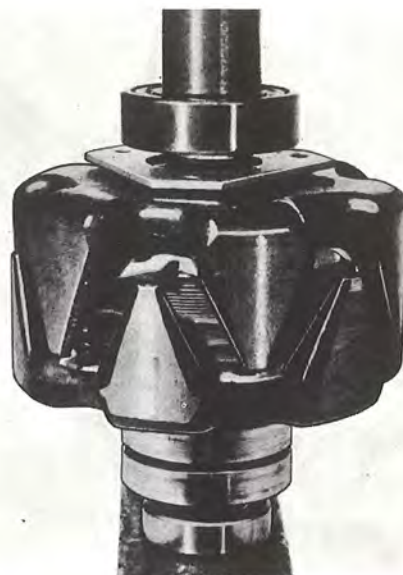

Fig. 3-17. Fitting the bearing
2. Press the bearing in with the help of a tubular sleeve which presses on the bearing inner ring, see Fig. 3-17.